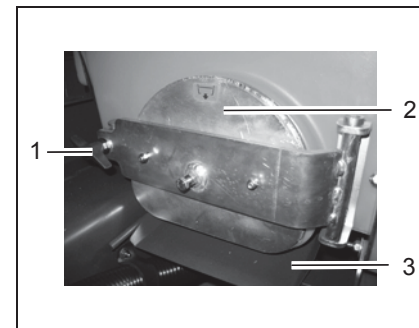
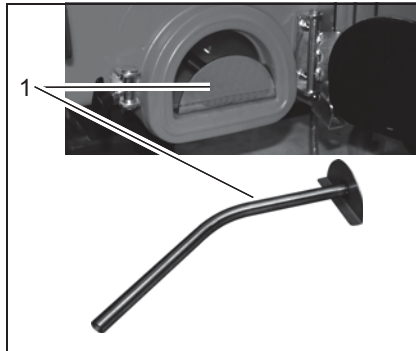

Fig. 33
Fig. 34
4. Pull out the run-off plate (Fig. 33/3).
5. Release the flap lock: turn the wing nuts (Fig. 33/1) counterclockwise.
6. Open the cleaning flap (Fig. 33/2). The waste water tank is equipped with a deflecting tube (Fig. 34/1). The deflecting tube serves to support the membrane panel.